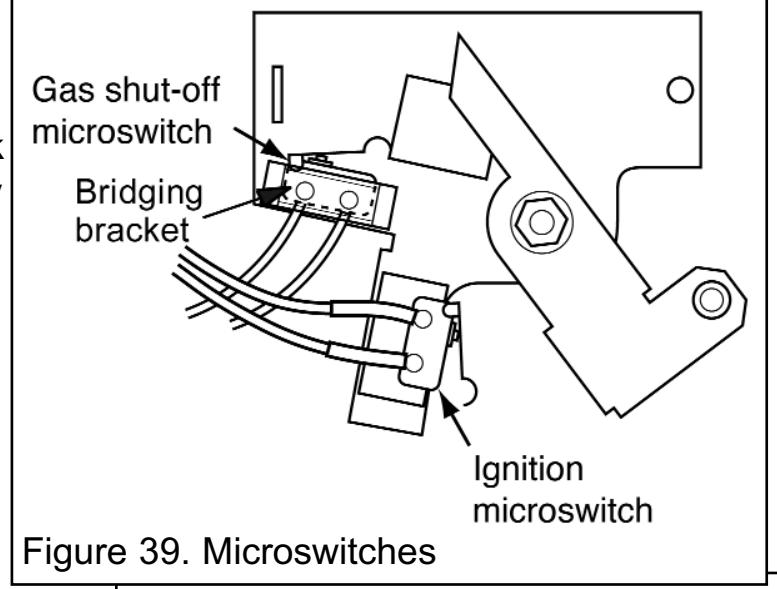

Figure 39. Microswitches
(See figures 39 & 40).
2. Disconnect the leads from the ignition microswitch (The lower of the two microswitches (See figure 39)).
3. Detach the bridging bracket, microswitch assembly by removing two screws (See figure 39).